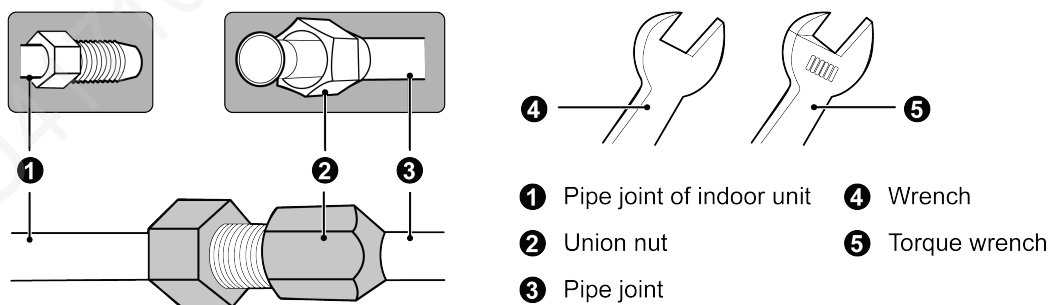

Fig 4.6
- (1) Direct the flaring of copper pipe to the center of screwed connection and then screw the flaring nut tight as shown in Fig 4.6
- (2) Use a torque wrench to tighten up the flaring nut until the wrench gives out a click sound.